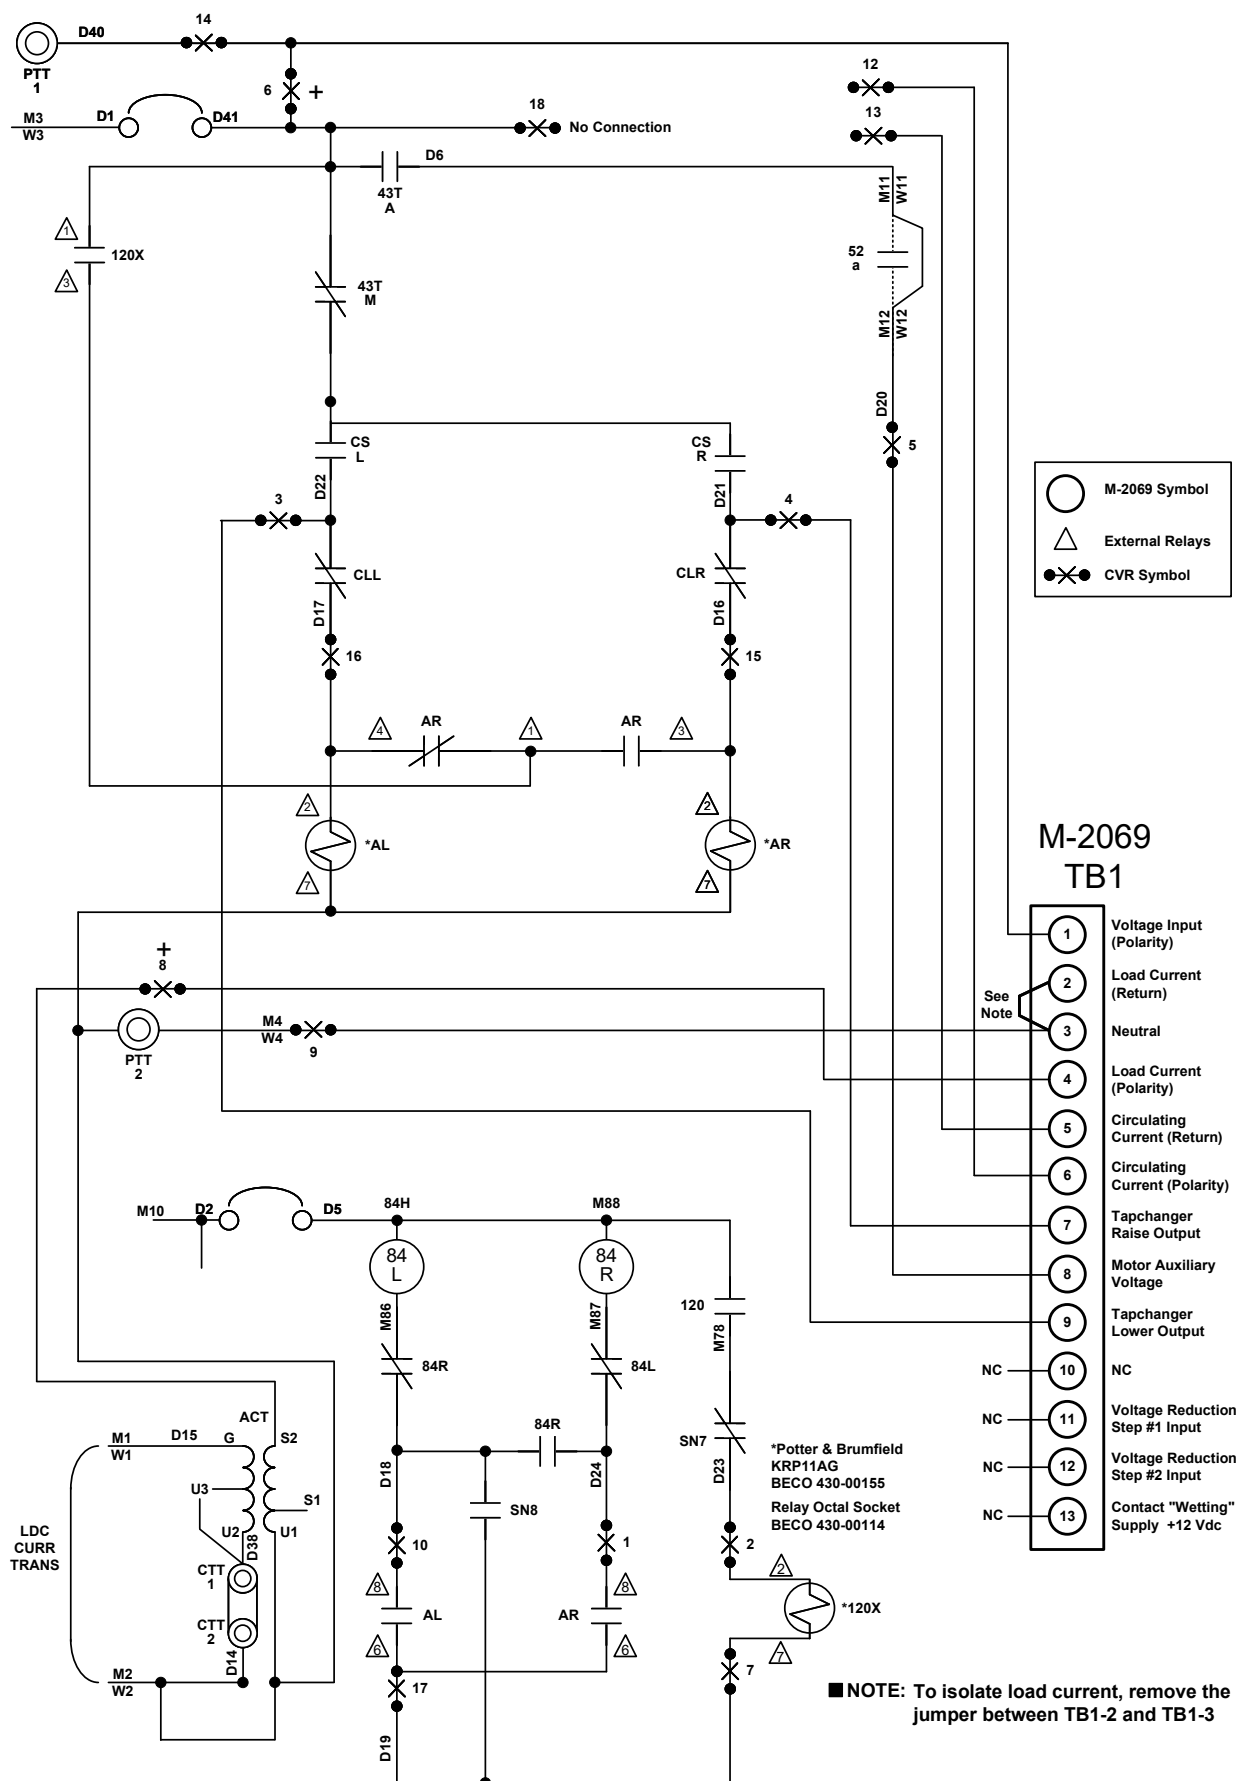

Figure 14 Westinghouse CVR-1 Replacement With M-2069
■ **NOTE:** The terminal block of the CVR/CVC and the TB1 terminal block of the M-2069 are not the same; refer to Table 1, Figure 13 and Figure 14.